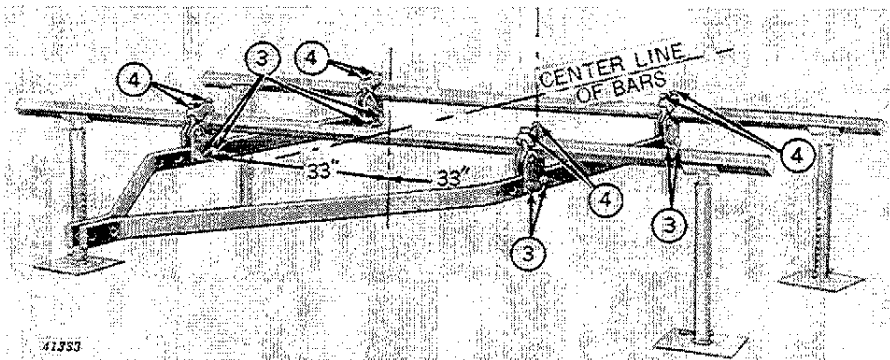

Figure 12
3. (Figure 12) Bolt hitch clamps to hitch frames.
4. (Figure 12) Bolt right-hand and left-hand hitch frame bars to tool bars 33 inches from center of bar to the *inside* of hitch frame bars as shown. **CAUTION: Tighten hex. nuts on all eyebolts evenly. This will allow clamps to be seated properly.**